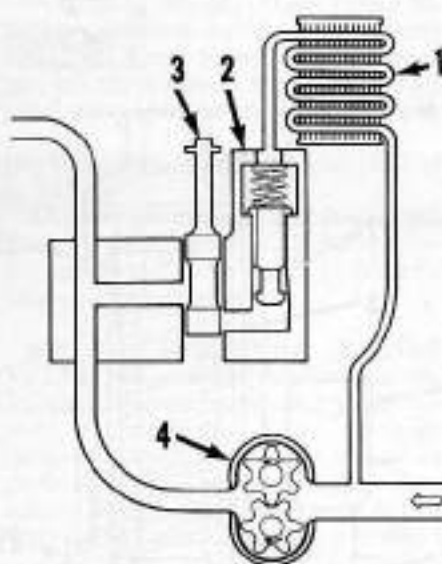

Fig. 206—View of typical hydraulic oil cooler system used on models equipped with power shift transmission.
**361.** Power shift models are equipped with a hydraulic oil cooler mounted to right-hand side of large "T" bracket fastened to frame in front of battery. It is located in hydraulic system between hydraulic pump and external pressure filter; a cooler valve (3—Fig. 206) which must be manually opened or closed and a flow valve (2) which automatically opens or closes in response to system pressure to protect cooler against higher system pressures is installed between pump and cooler.
Oil from hydraulic pump is directed toward cooler control valve (3—Fig. 206). When control valve knob (4—Fig. 209) is pulled out, valve is closed and no oil flows through cooler. When knob (4) is pushed in oil is directed to flow valve (2—Fig. 206). If system pressure is less than 5515 kPa (800 psi) a spring in flow valve holds plunger off seat allowing a portion of oil to flow through cooler (1). If system pressure becomes greater than 5515 kPa (800 psi) it seats plunger and no oil flows through cooler.